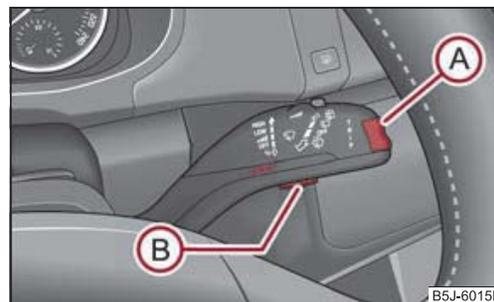

Fig. 20 Information display: Control elements
- You can activate the **Main menu** by pressing the rocker switch (A) ⇒ fig. 20 for more than 1 second.
- You can select individual menu points by means of the rocker switch (A). When the pushbutton (B) is briefly pressed, the information you have selected is displayed.